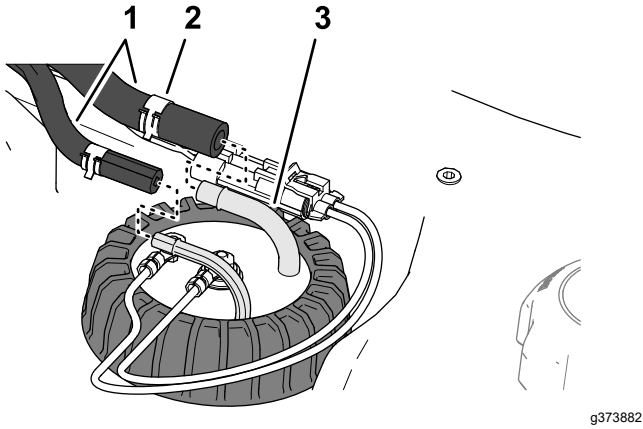

Figure 120
4. Move the clamps that secure the hoses to the fittings of the fuel sender inboard, and remove the hoses from the fittings (Figure 120).